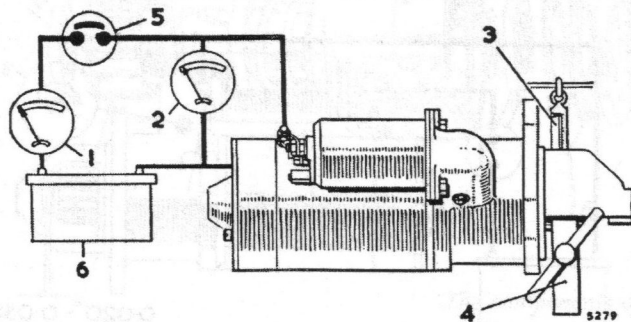

Fig. N.20
- (1) With the starter motor securely clamped in a vice and connected to a 12-volt battery, check the light running current, which should have a maximum reading of 90 amps. at 8,000 to 9,000 r.p.m. This is inclusive of the solenoid shunt windings (hold-on coil) current of 16 amps.
- (2) Carry out a lock torque test (Fig. N.20). The lock torque should be 32.5 lb. ft. (4.49 kg. m.) with 900 amps. at 6.4 terminal volts. (If a constant voltage supply is used, it is important to regulate the voltage at the starter terminal to 6.4 volts when testing.)